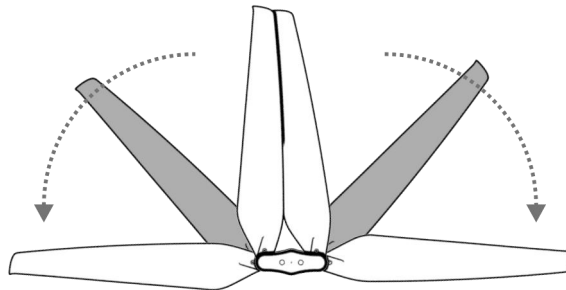

Figure 1-4-5 Unfold the Propellers
**Step 5:** Unfold the propellers to 180°, as shown in Figure 1-4-5.